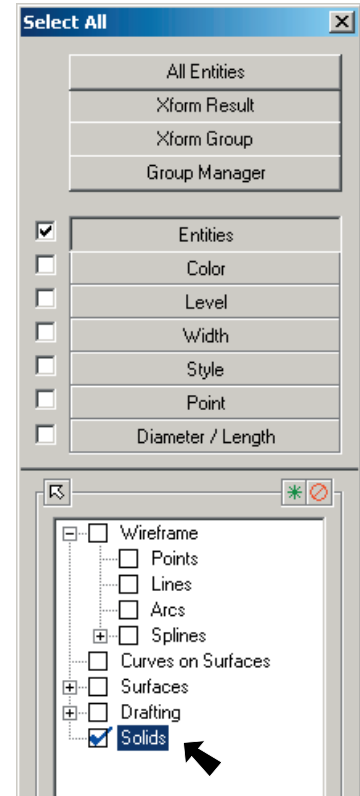

Fig. 28
Step 4. Click to place a check in Solids check box in the Select All dialog box and click OK, **Fig. 28**.